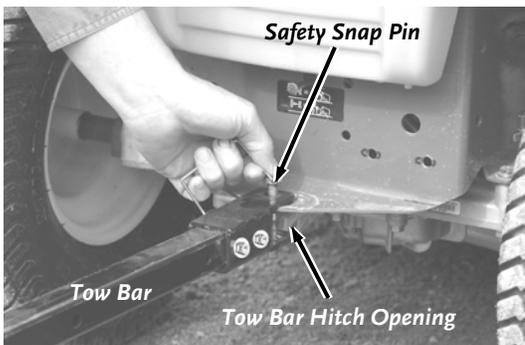

Figure 14
- Set the Parking Brake on your Lawn Tractor, lift the Tow Bar, and position the Tow Bar Hitch so that the Hitch Plate on your Lawn Tractor is in the opening in the Tow Bar Hitch (**Figure 14**).